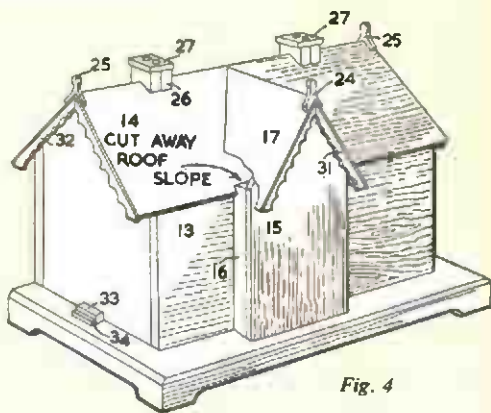

Fig. 4
Next add the front (13) and roof slopes (12 and 14), cutting away piece 14 as shown in Fig. 4, and continue making up the tavern by adding the front gable and slopes (17), chimneys and finials (Fig. 4). Note that slopes 17 must be adjusted to fit by trial and error. The